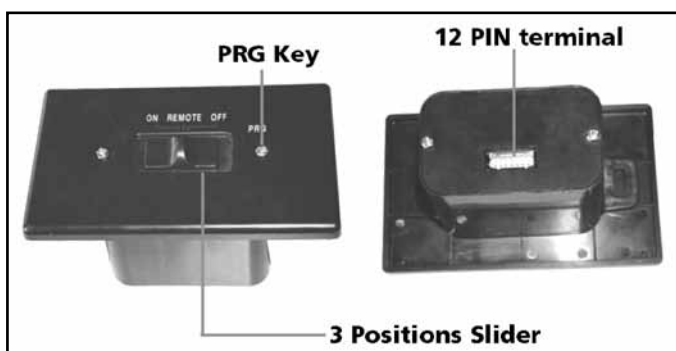

Figure 7: Proflame Receiver.
The Proflame Receiver (Figure 7) connects directly to the gas valve, stepper motor, DFC, and Fan Control Module with a wiring harness. The Receiver is powered by four (4) AA type batteries. The Receiver accepts commands via radio frequency from the Transmitter to operate the appliance in accordance with the particular Proflame system configuration. The Receiver three (3) position slider switch can be set to one of three positions: ON (Manual Override), Remote (Remote control), or Off.
Install the four (4) AA batteries into the receiver battery bay. Note the polarity of the battery and insert into the battery bay as indicated on the Battery cover (+/-). Place the 3-position slider switch in the "Remote" position (see Figure 7). Using the end of a paper clip, or other similar object, insert the end of the paper clip into the hole marked "PRG" on the Receiver front cover (see Figure 7).